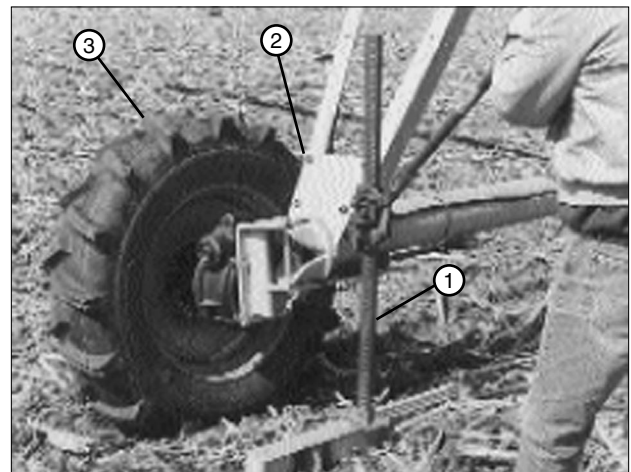

Figure 25-2 1. Jack
2. Use a jack to lift one side of the drive unit until the tire is off of the ground. See figure 25-2.